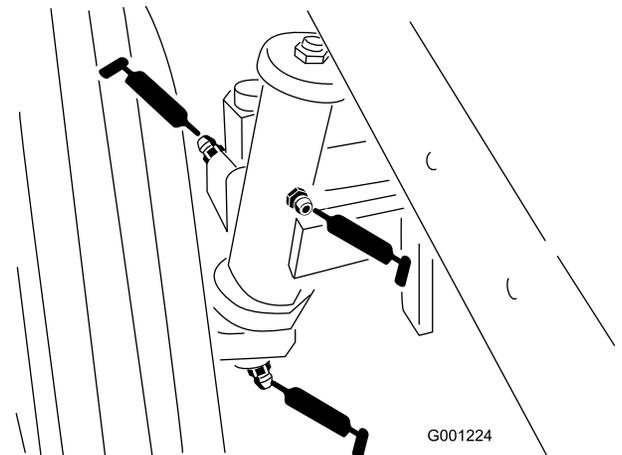

Figure 42
- Rear wheel spindle bushings (Figure 42)